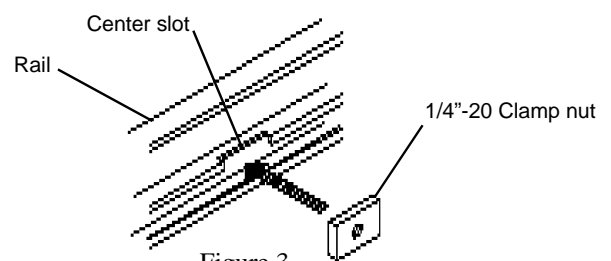

Figure 3
4. Insert two rectangular **1/4"-20 Clamp Nuts** into the Slide Track on each Horizontal Rail by inserting it into the center slot in each Rail. See **Figure 3**.